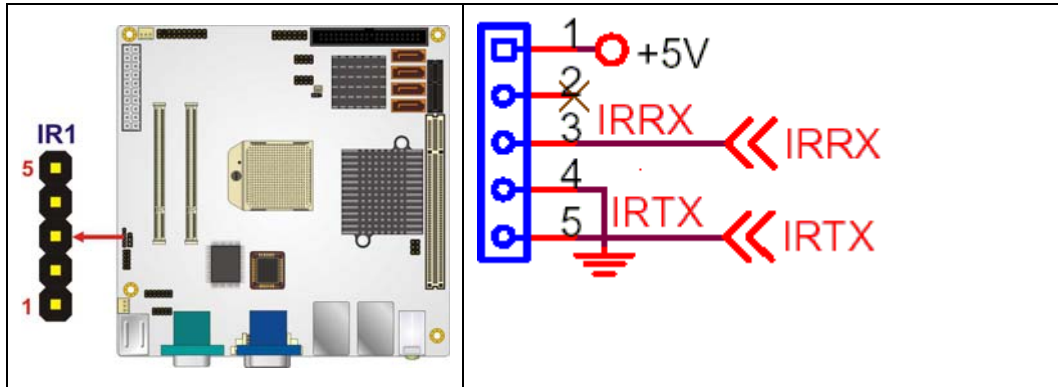

Figure 4-7: Infrared Connector Pinout Locations
- CN Location:** See Figure 4-7